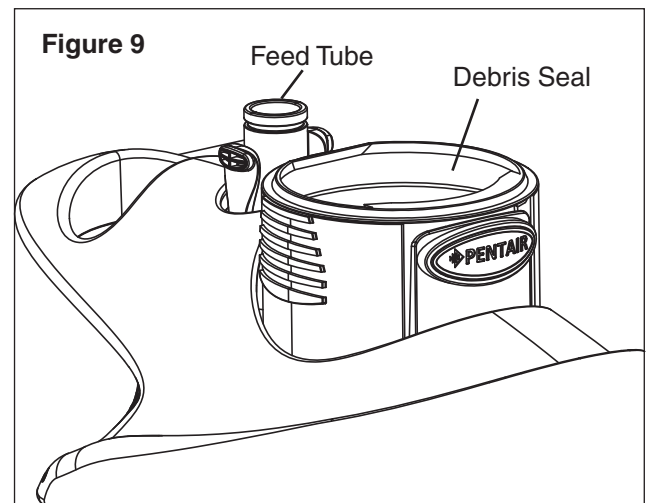

Figure 9
- Ensure debris seal is attached. See **Figure 9**.
5. Be sure debris seal is on the vacuum tube. See **Figure 9**, on page 5.